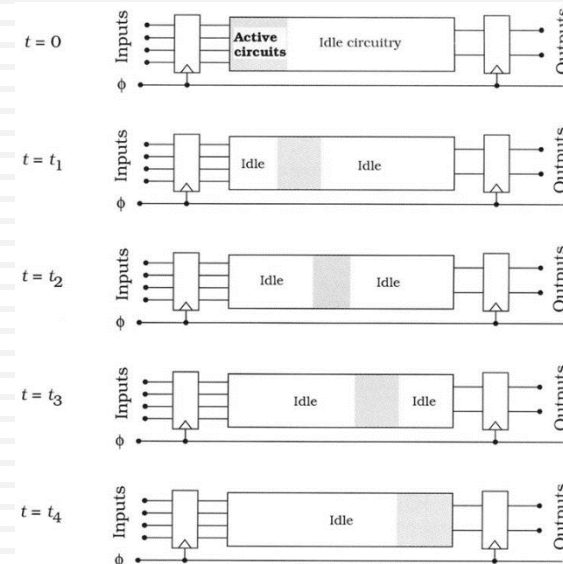

Figure 15.29 Circuit activity in a logic cascade
- Once a circuit completes a calculation and passes the result on to the next stage, it remain idle for the rest of the clock cycle (Figure 15.29)